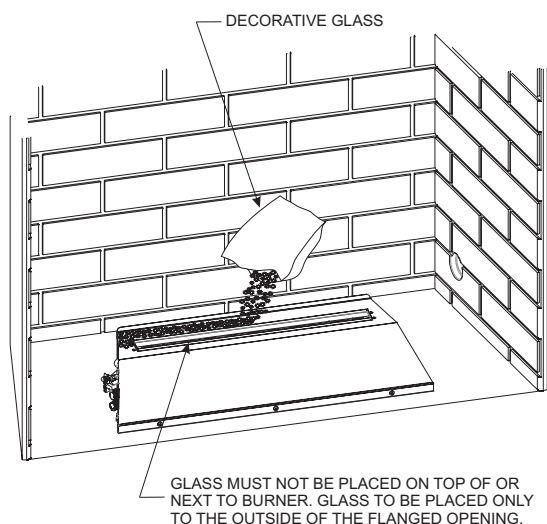
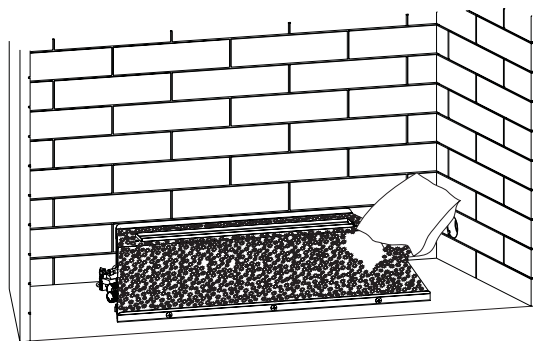

Figure 29
Figure 30
3. To install the Decorative Glass, cut off a corner of the plastic bag and proceed to apply the glass to the rear shelf on the Loft burner (area behind the burner). Apply only enough glass to the Top Cover to cover the black metal surfaces. Do not allow the glass to fall around the burner tube. **See Figure 29.** Apply the remaining decorative glass to the front sloped surface of the Top Cover. Start by placing the glass along the front edge of the top cover, then gradually place the glass up the sloped top until completely covered. Do not allow the glass to fall around the burner tube. **See Figure 30.**